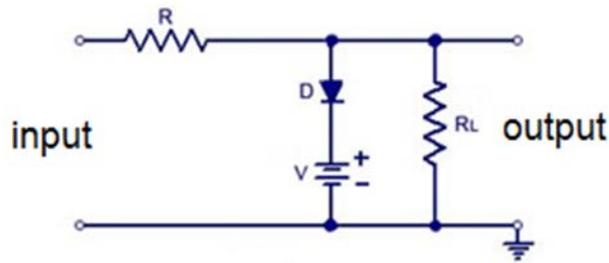
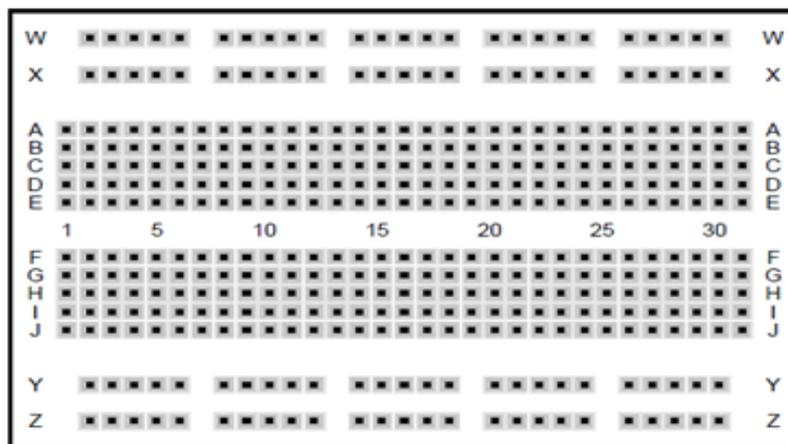

FIGURE 4.7.10
FIGURE 4.7.11
4.7.4 Construct the parallel biased clipper circuit in FIGURE 4.7.10 below on the breadboard in FIGURE 4.7.11 below. Draw the component layout on the figure.